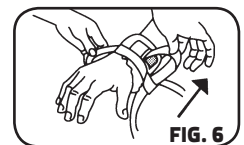

FIG. 6
**NOTE:** To remove cuffs, pull up on the hook and loop strap to loosen (fig. 6).